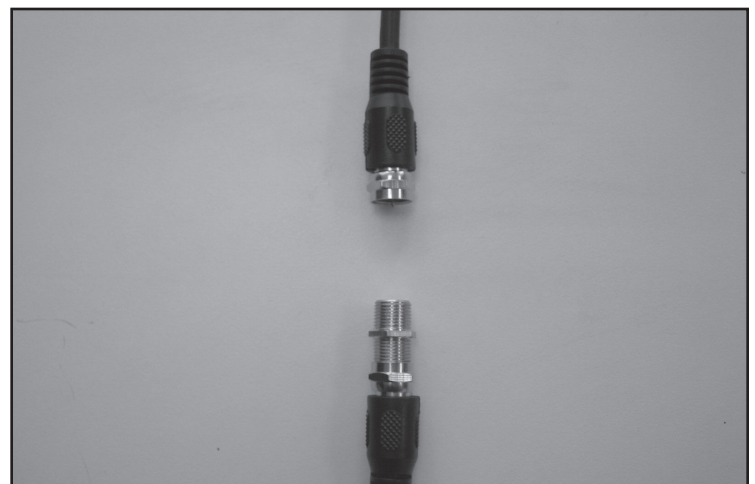

Figure 4b: Coax Connection
5. Connect the Coax cable from the Right Upright to Coax cable from the Console as shown in Figure 4b. **Note:** Make sure to hand tighten coax connector only. Do Not overtighten.